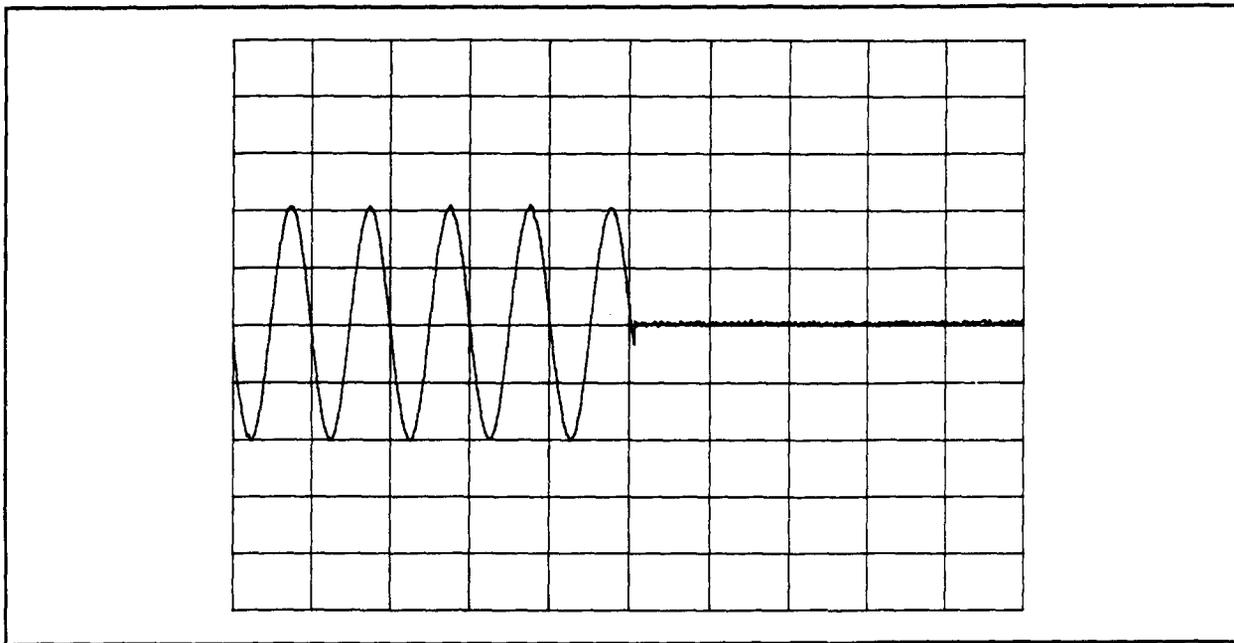

**Figure 4-7.** Tone Sequence Timing Accuracy Performance Test Setup
1. Connect the Multifunction Synthesizer OUTPUTS 1 HIGH output to the high-impedance, ac coupled oscilloscope's input and to the (non-floating) input of the audio spectrum analyzer using a tee. Refer to Figure 4-7.